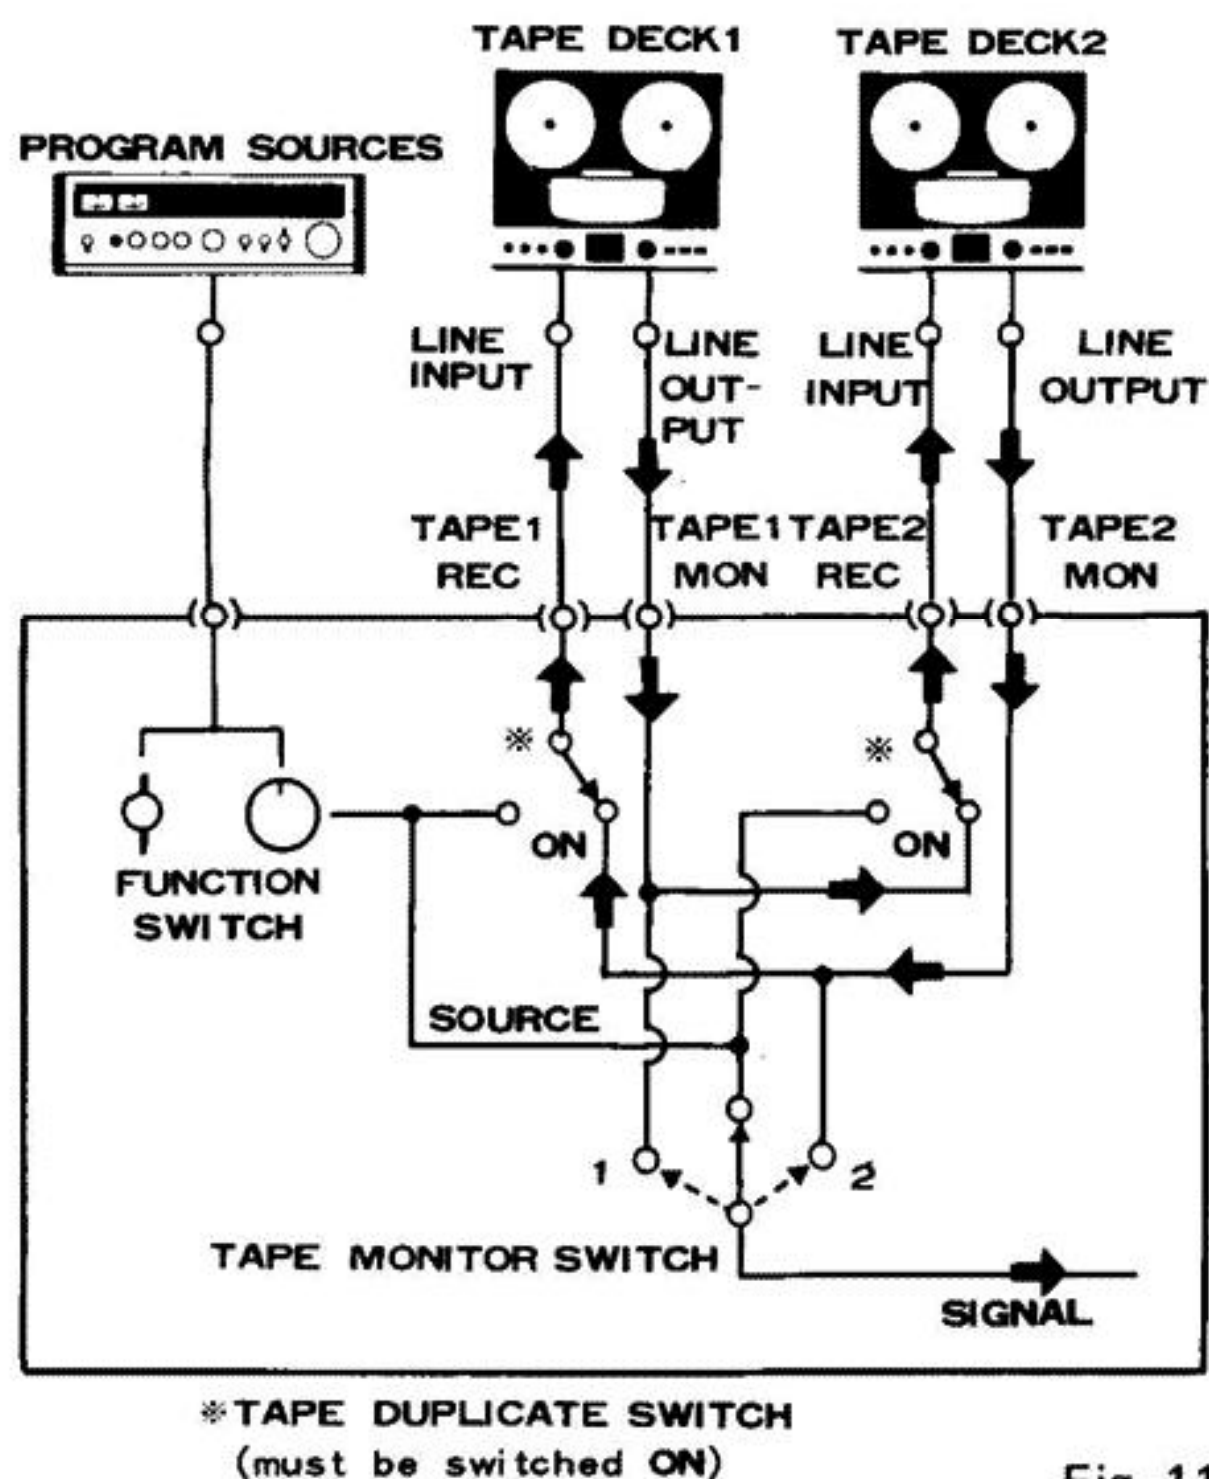

Fig. 11
1. Connect two tape decks as shown in Fig. 11.
4. Recording condition can be monitored while recording with tape deck 1 with TAPE MONITOR switch set to 1; likewise, recording condition can be monitored while recording with tape deck 2 with the switch set to 2 (See Fig. 11).